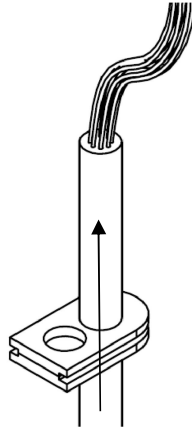

Fig. 10
3.1.5. Insert the cable and fiber units through the rubber grommet (Fig. 10);